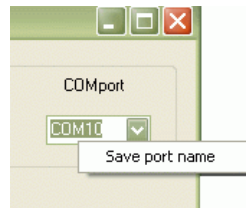

Figure 9: Selecting the COM port number.
8. In the top-right corner of the Evaluation Kit application window, select the COM port number assigned to the device from the list of available ports, per step 6. Right-click the control and choose *Save port name* from the context menu (see Figure 9), then restart the application.